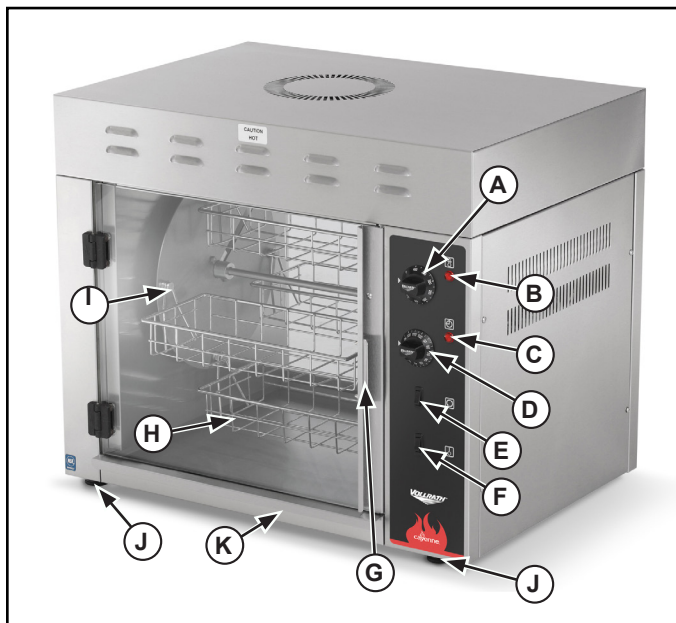

Figure 1. Features and Controls
Before initial use, turn the thermostat control dial (A) to 450°F (218°C) and allow equipment to burn-in for 30 minutes to eliminate any manufacturing oils. See Figure 1. You will notice smoke appearing due to the elements burning-in. This is normal. After 30 minute burn in period the equipment is ready for use.
2. Switch on the power and light switch (F) to the ON position. See Figure 1. The oven lights will illuminate which confirms power to the equipment.
3. Set the thermostat control (A) to the desired cooking temperature. The recommended cooking temperature for eight (8) birds and 15 birds is 338°F (170°C), however this may need to be adjusted based on chicken size, starting temperature, quantity, your preferences and other variables.
4. Set the timer control (D) to the desired cooking time, typically between 1½ - 2 hours. The actual cooking time (and temperature) may need to be adjusted to ensure the chickens are fully cooked as verified by a quality food thermometer.
6. Turn the motor switch (E) to the OFF position.